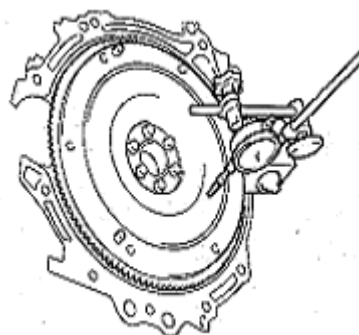

Figure 136
11. Using the dial gauge, check the flywheel runout. See (Figure 136).